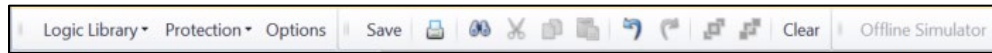

Figure 2-24. BESTlogicPlus Toolbar
Step 16: Click the Save button to save the logic to BESTCOM*Plus* memory for later inclusion in the settings file. The BESTlogic*Plus* toolbar is shown in Figure 2-24.